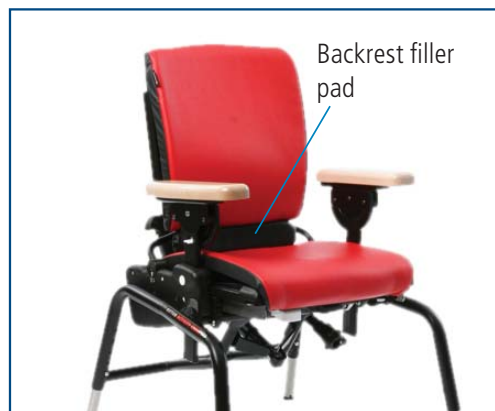

Figure 31b
**Backrest filler pad can provide additional lower back support when chair backrest is so high that there is an open space between backrest and seat (see Figure 31b).**